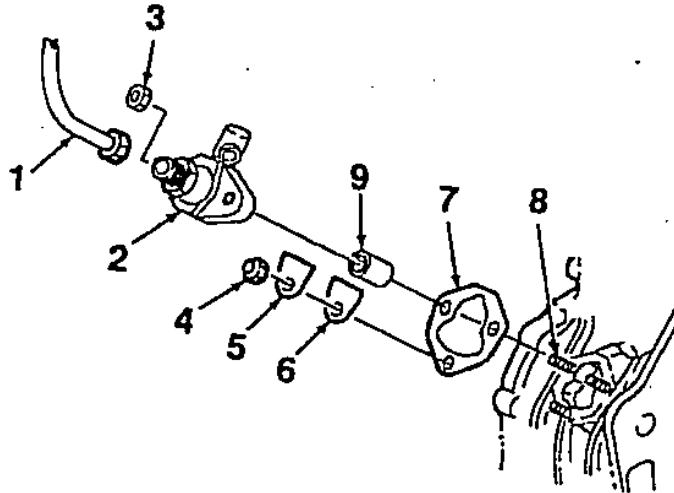

Figure 1. Fuel Pump Removal.
1. Disconnect fuel pipe (1) from the fuel pump (2). See Figure 1.
2. Remove nut (4), inspection cover (5) and gasket (6) from the lower pump stud.
3. Remove fuel pump (2) from pump studs by removing two nuts (3). Remove shim(s) (7). Note number of shims utilized.
4. Remove fuel tappet (9) from the engine.